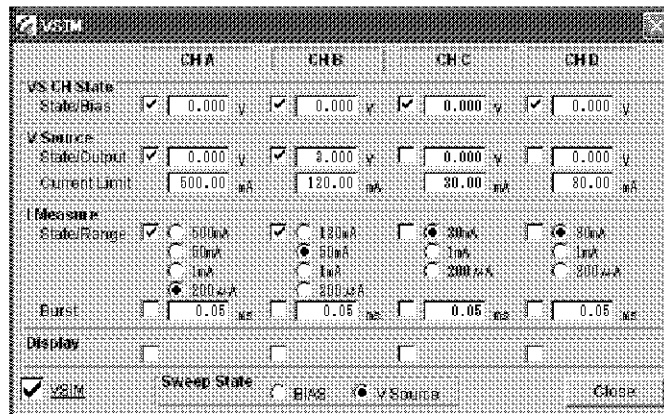

Figure 11-2 Sending the DCS
2. Set channels A and B as shown in Figure 11-2 according to the settings in Table 11-3.